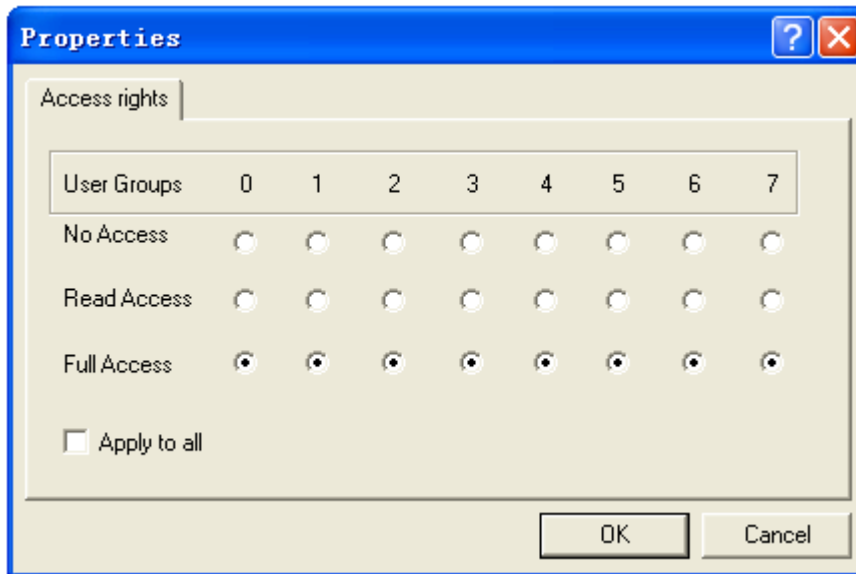

Figure 2-3-6 Properties Dialog
- **Properties:** Set user's access rights to the current POU, as shown in figure 2-3-6.